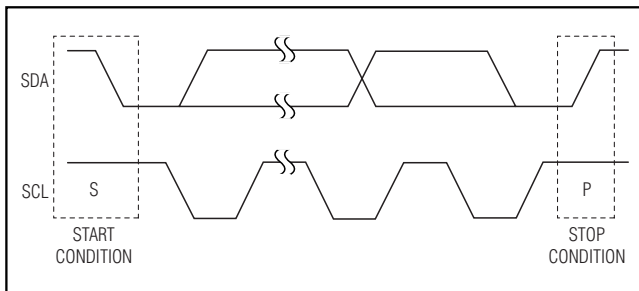
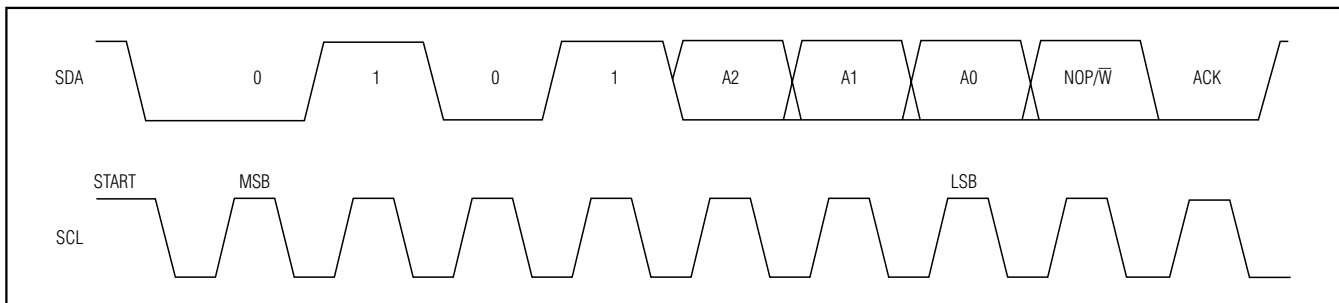

Figure 3. Start and Stop Conditions
Figure 4. Slave Address
Each transmission consists of a START (S) condition (Figure 3) sent by a master, followed by the MAX5477/MAX5478/MAX5479 7-bit slave address plus the NOP/ \bar{W} bit (Figure 4), 1 command byte and 1 data byte, and finally a STOP (P) condition (Figure 3).
Both SCL and SDA remain high when the interface is not busy. A master controller signals the beginning of a transmission with a START condition by transitioning SDA from high to low while SCL is high. The master controller issues a STOP condition by transitioning the SDA from low to high while SCL is high, when it finishes communicating with the slave. The bus is then free for another transmission (Figure 3).
The MAX5477/MAX5478/MAX5479 have a 7-bit-long slave address (Figure 4). The 8th bit following the 7-bit